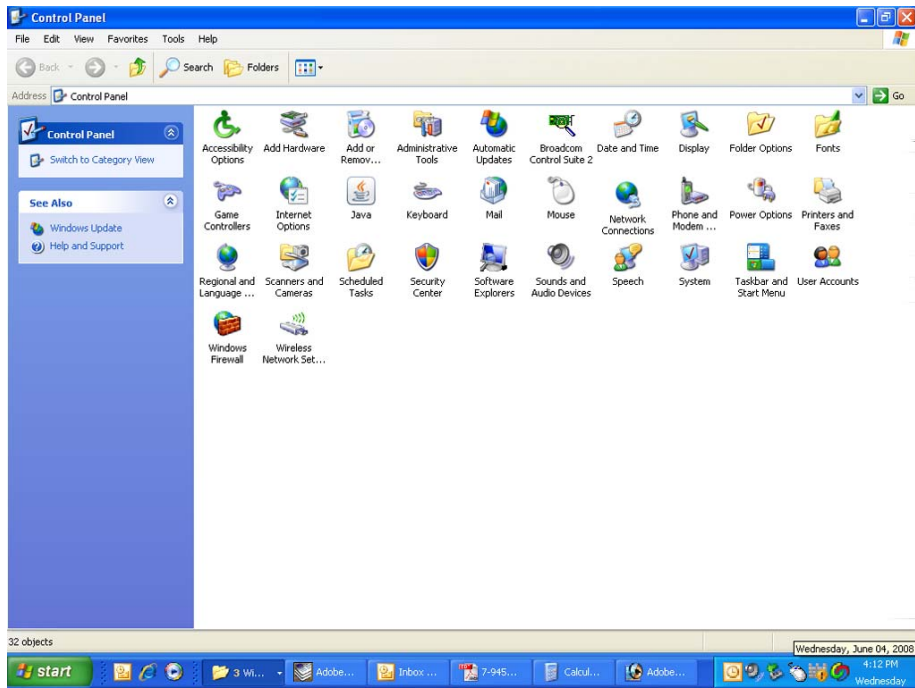

Figure B2: Select the “ Network Connections” icon.
- 3) From the “Control Panel” icon selections double click on the “Network Connections” icon. Refer to **Figure B2**.